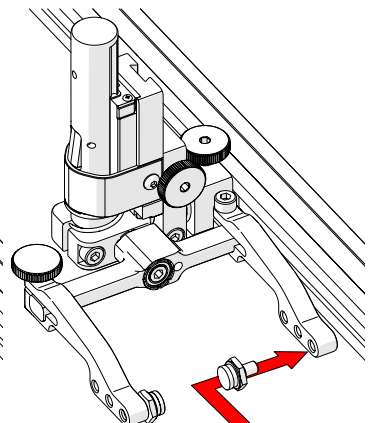

Fig. 124 - Place buttons
3. Position the pivot buttons where necessary. When a narrow scanning footprint is required, use the pivot button holes closest to the yoke (*Fig. 124*).